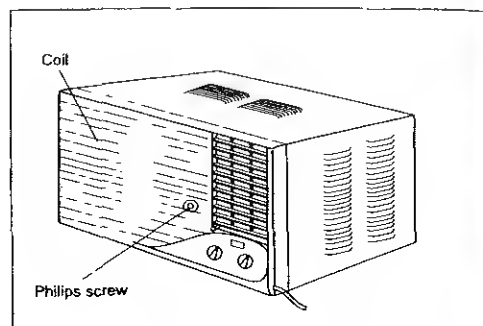

Fig 17
- B. Secure the front grille to the cabinet using the Philips screw removed earlier (Fig 17)